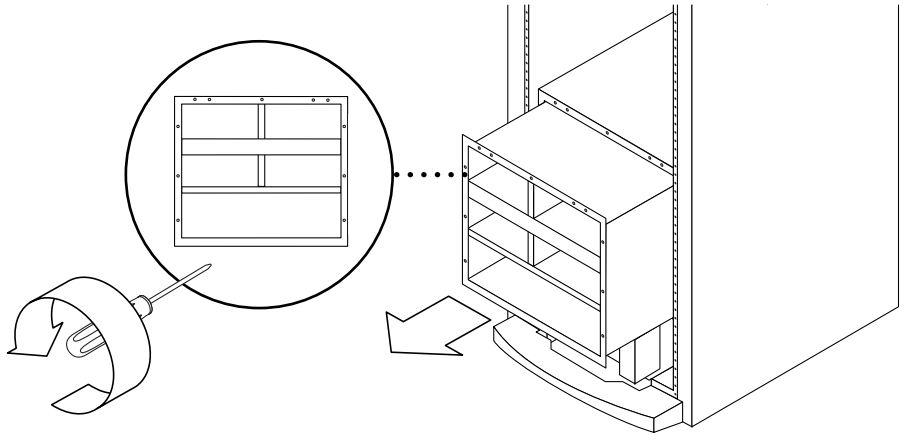

FIGURE 12-32 Removing the Subchassis
11. Remove the nine smaller screws with a Phillips no. 1 screwdriver (FIGURE 12-32). Make sure that the power supply cables are clear and remove the subchassis.
5. **Slide in the subchassis, making sure that the power supply cables are out of the way (FIGURE 12-32).**